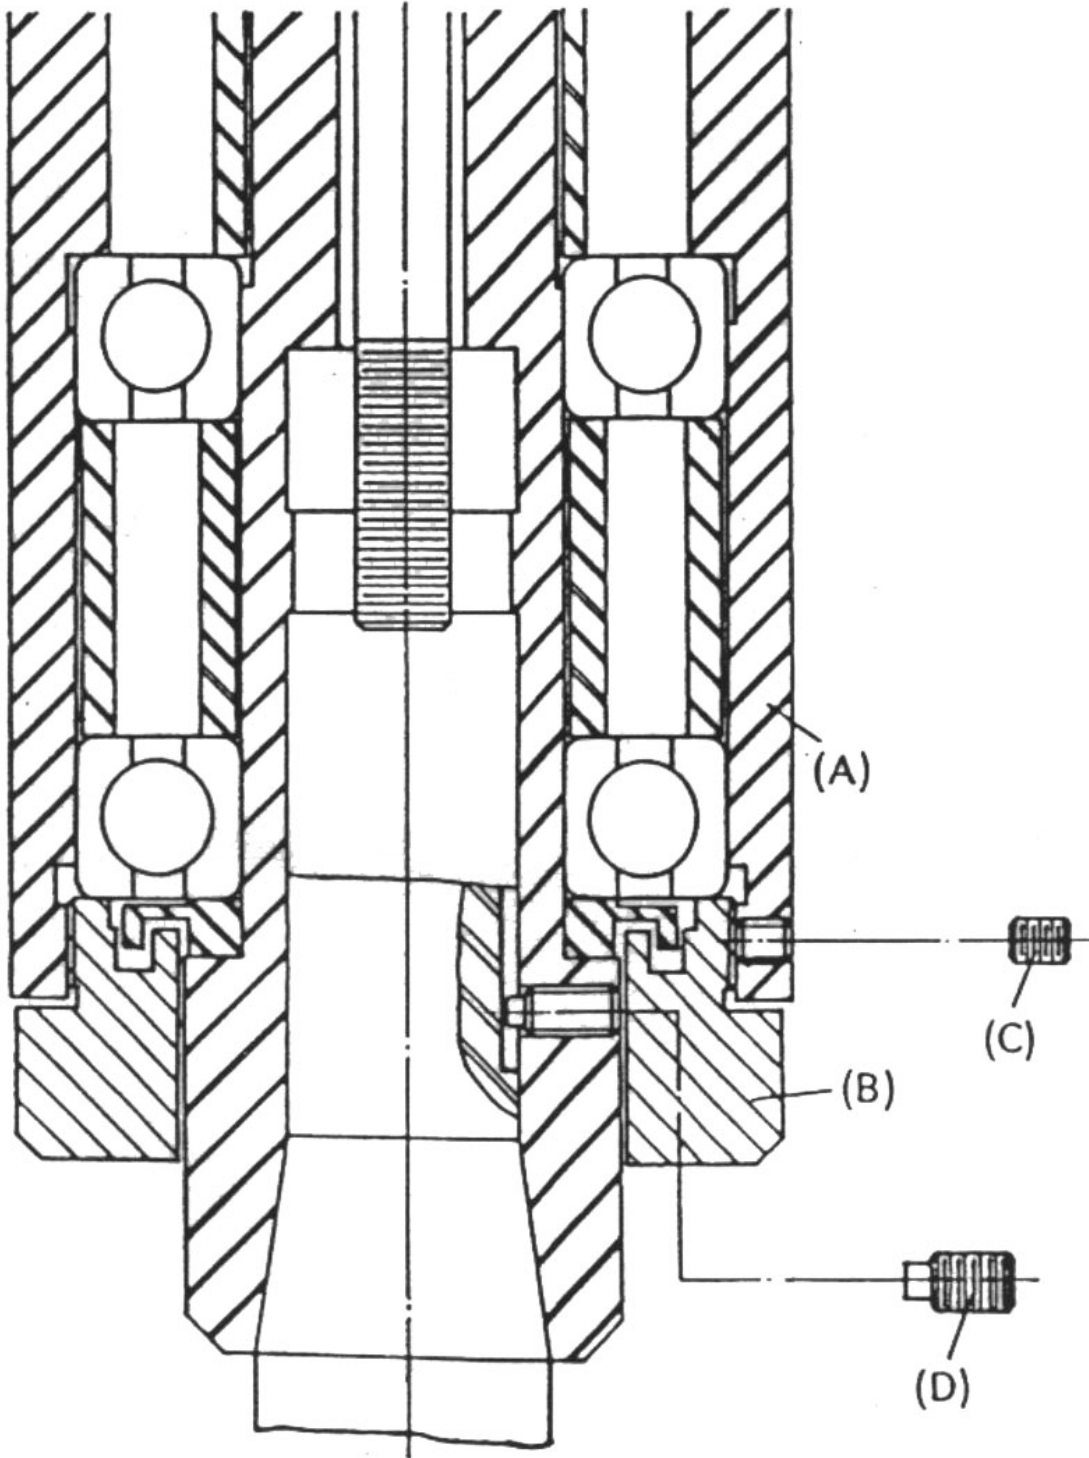

Fig10-7
10.2.5 Replacement of collect aligning screw (vide Fig.10-7):(available for R8 spindle only)
- a. Prior to replacement, use a marking pencil to draw a line on quill (A) and its nose piece (B).
- b. Loosen the setting screw (C) nose piece. Use a hook spanner to take off the nose piece (B).
- c. Use a hexagonal spanner of appropriate length to take off the collect aligning screw (D) for replacement.
- d. When the collect aligning screw is replaced, set the nose piece (B) tightly until it is positioned on the marked line.
- e. Set the set screw (C) of nose piece tightly.